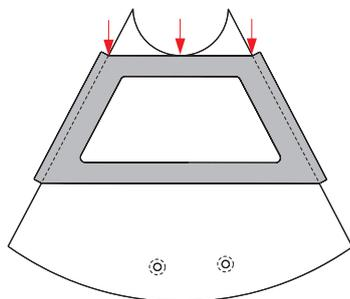

Fig. 150 Position of the guide plate
22. Observe the position of the guide plate (Fig. 150).